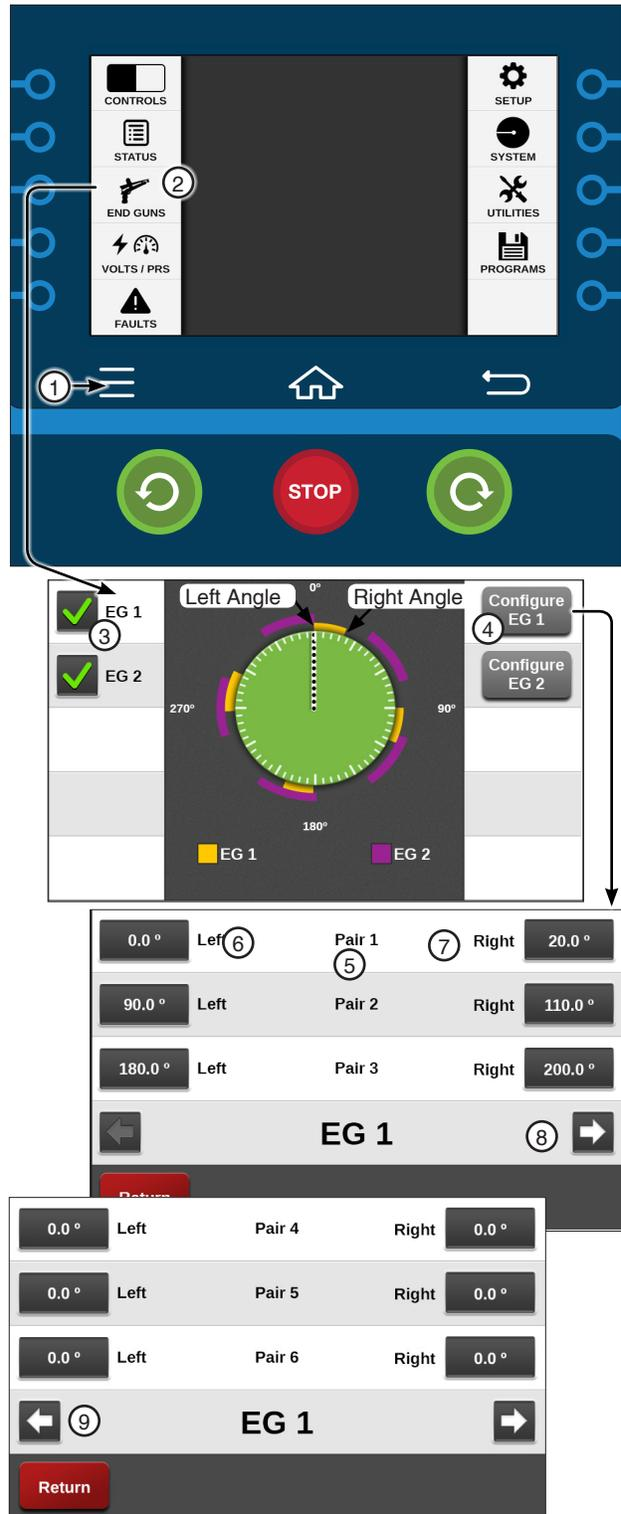

Figure 16-1 1. Menu 6. Left
1. Push **Menu** and **End Guns** to display the End Guns screen. Refer to Figure 16-1.